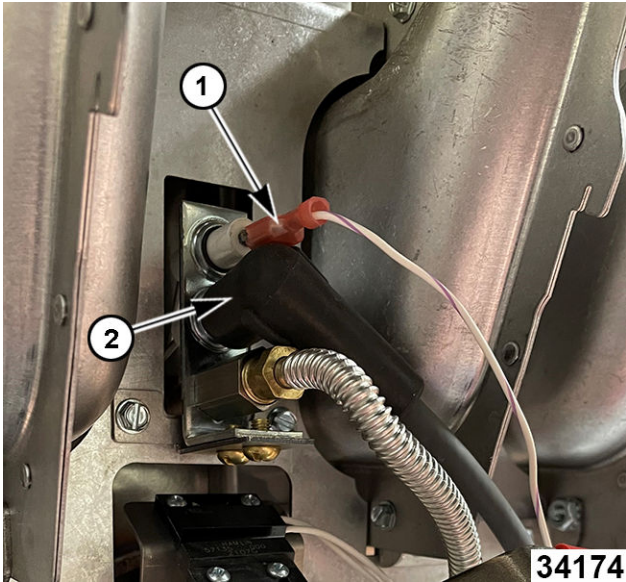

Fig. 89
1. Disconnect flame sense wire (1, Fig. 89).
2. Disconnect electrode cable (2, Fig. 89).